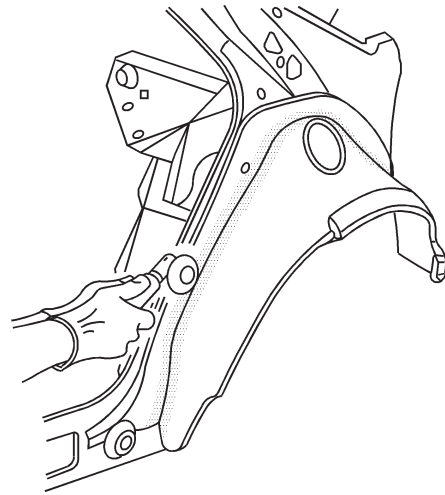

Fig. 4.30 — Cut Location
- 5 Cut the wheelhouse along the corner of the bend (Fig. 4.30). If necessary, apply a strip of masking tape as above and cut along the inboard edge.